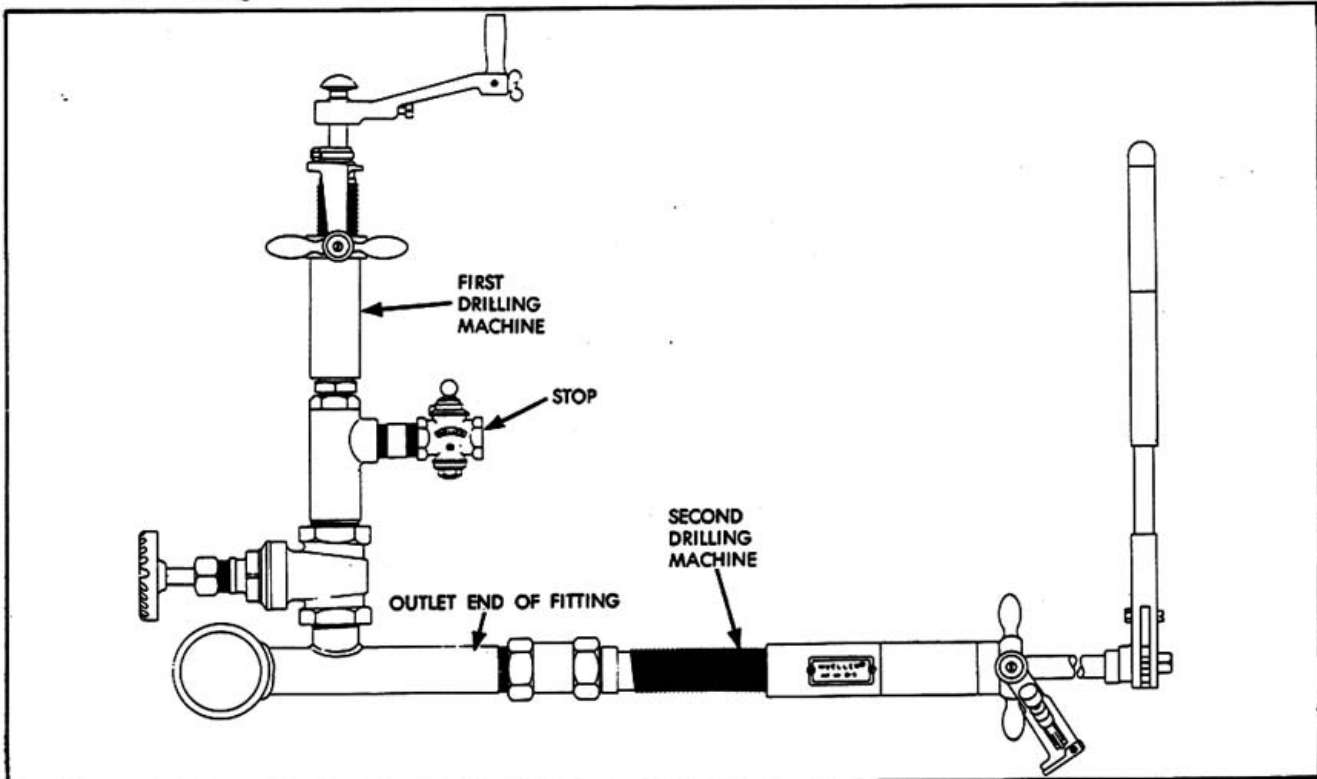

FIGURE 17
4. Rotate feed tube and yoke of first drilling machine in a CLOCKWISE rotation a little at a time with a short pause after each turn to expand the stopper. CAUTION: Do not rotate ratchet handle. See FIGURE 17.